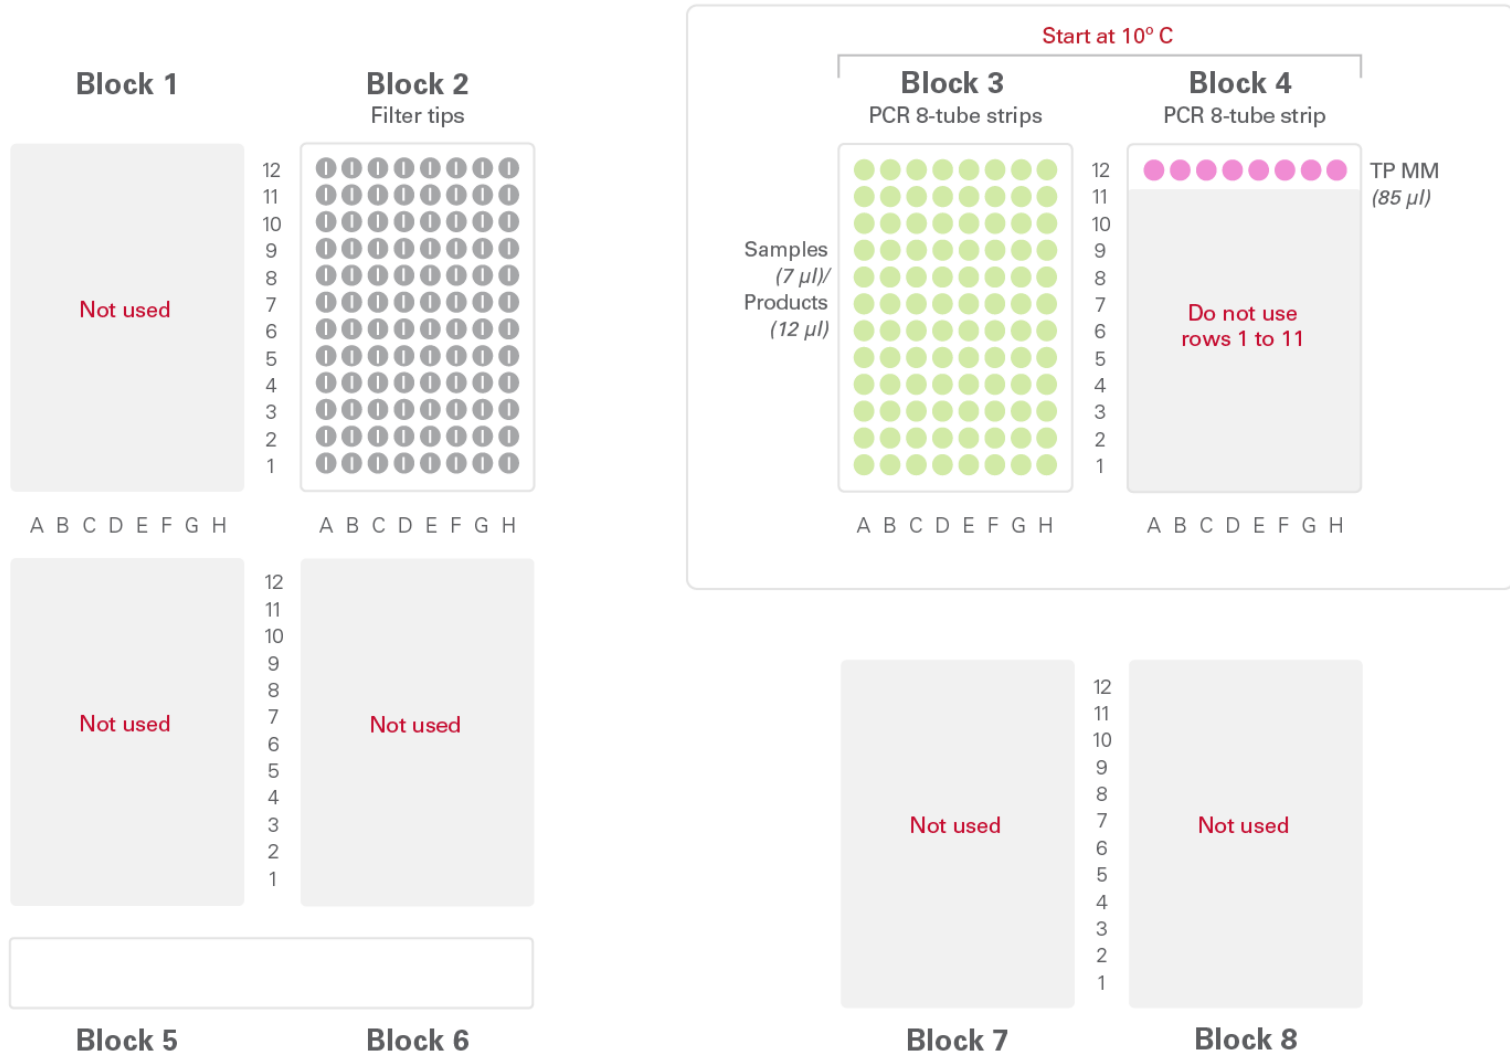

Figure 4. Deck layout for template preparation from 96 samples. For this protocol, use script `SSv4_1_Lysis_96_v1-1.scb`. Run time is 21 minutes.
4. Load consumables onto the Apollo work surface according to the layout in Figure 4 (96 samples) or Figure 5 (12 samples). See Appendix A for deck setup using other sample numbers. First, load the consumables that do not initially hold reagents. Next, on the benchtop, aliquot reagents and samples into the indicated consumables according to the table below, and then load them onto the system just before the run.